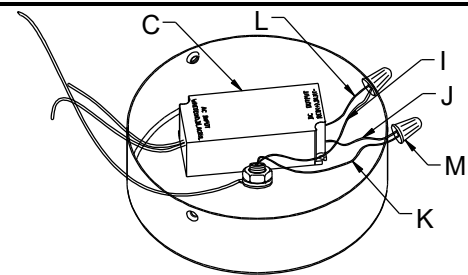

Fig. 3
### CONNECTING THE WIRES (Fig. 3)
7. Connect electrical wires as shown in fig 3, making sure that all wire connectors are secured. If your junction box has a ground wire (green or bare copper), connect the fixture's ground wire to it. Otherwise, connect the fixture's ground wire directly to mounting plate (A) using the green screw provided.